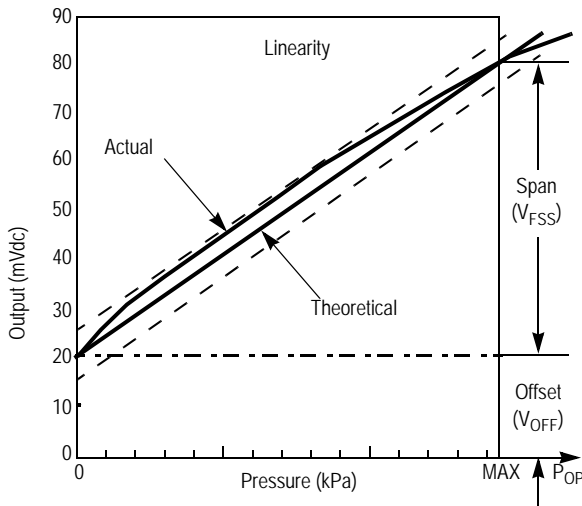

Figure 3. Linearity Specification Comparison
Linearity refers to how well a transducer's output follows the equation:  $V_{out} = V_{off} + (\text{sensitivity} \times P)$  over the operating pressure range (see Figure 3). There are two basic methods for calculating nonlinearity: (1) end point straight line fit or (2) a least squares best line fit. While a least squares fit gives the "best case" linearity error (lower numerical value), the calculations required are burdensome.